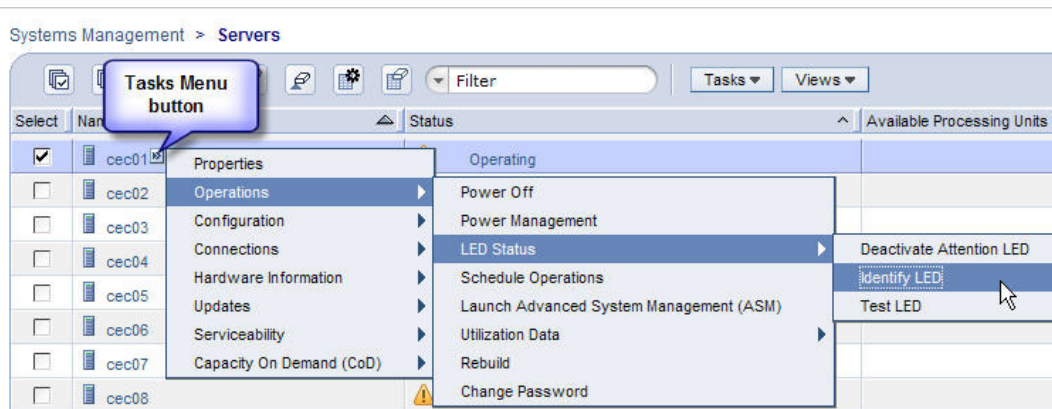

Figure 3 Identify LED Selection
- STEP 4 Click the Tasks Menu button (right-arrow) and *select* **Operations -> LED Status -> Identify LED**. See Figure 3.